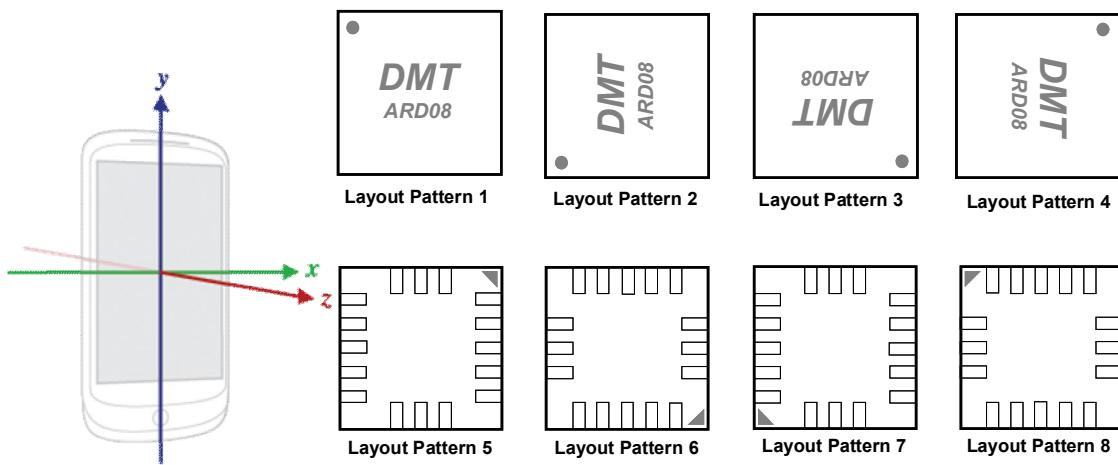

Figure 1: Android SensorEvent Coordinate System and DMARD08 Layout Patterns
3. Specify the g-sensor layout by defining one of the following macro in “dmt030818.h”. The example code uses layout pattern 1. See Figure 1 for other g-sensor layout pattern orientations.
The coordinate system used by the Android SensorEvent API is defined relative to the screen of the phone in its default orientation, as shown in the Figure 1. Specify the g-sensor layout to one of the layout patterns illustrated below.